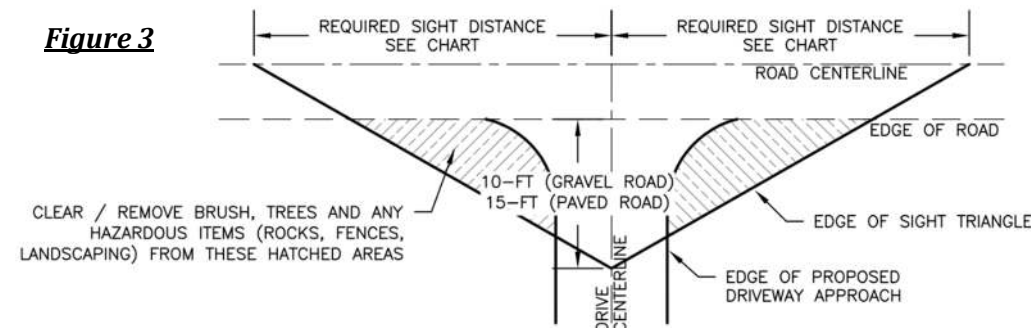

Figure 3
- It is necessary to provide a clear line of sight to safely enter or exit the roadway. All trees, brush, bushes, banks and objects (rocks, fences, landscaping) in the shaded portion of **Figure 3** shall be cleared / removed so that the ground is fairly level and allows for proper sight distance.